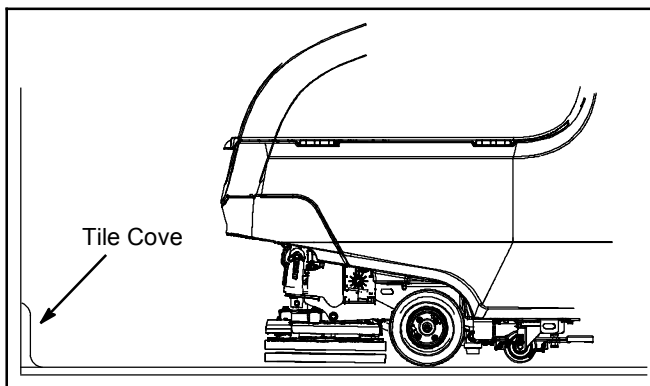

FIG. 83
8. Orbital Scrub Head Model - Use caution when working near the tile cove (Figure 83) and floor mounted fixtures such as pedestal sinks and other breakable items. Keep the metal scrub head edge away to avoid possible damage.